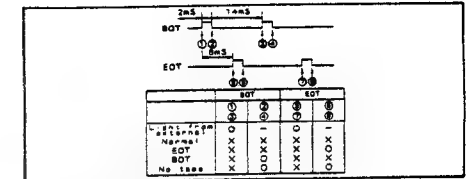

Fig. I-18
The LED for BOT/EOT detection is turned on/off by the TAPE SENS LED signal fed from the pin 25 of servo microcomputer (IC109). The flashing cycle is as shown in the Fig. I-18. If the signals at the timings of ①, ③ and ⑤, ⑦ in the figure are low, the mechanism cancels the detecting operation. (Judged as a light from the external)